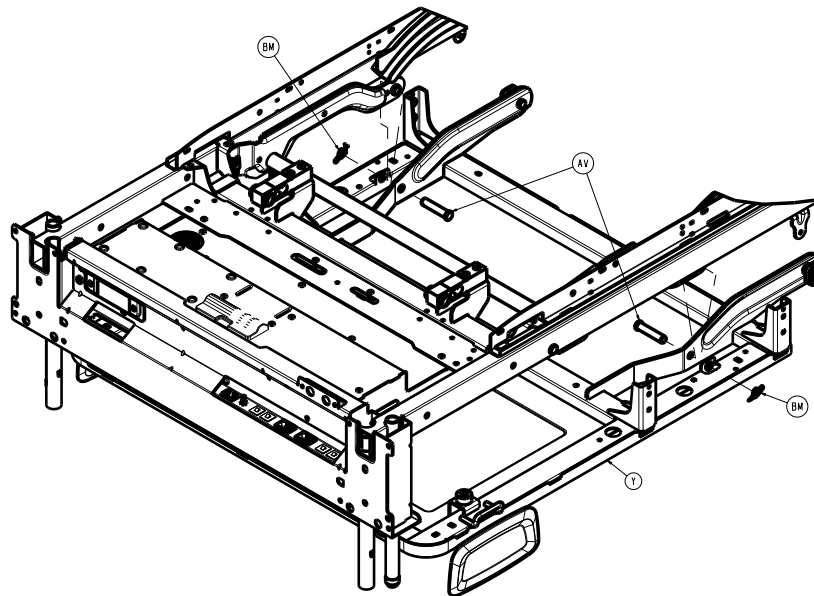

Figure 24 – Removing the cover
19. Using needle nose pliers, remove the left side upper Fowler link ratchet clip (BM) and clevis pin (AV) (Figure 24). Save the ratchet clip and clevis pin.
21. Using needle nose pliers, remove the right side upper Fowler link rue clip (BM) and clevis pin (AV) (Figure 24). Save the rue clip and clevis pin.